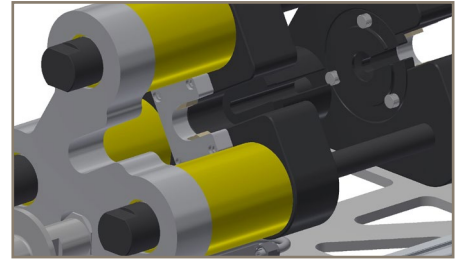

Figure 54
3. After selecting the connector and with the Tri-Tool on a flat and stable work surface take a connector and position between the fixed and moving jaw inserts. The orientation will depend on the type of connector being assembled. If a termination connector is being installed, remove the collar and sealing sleeve (Figure 54).